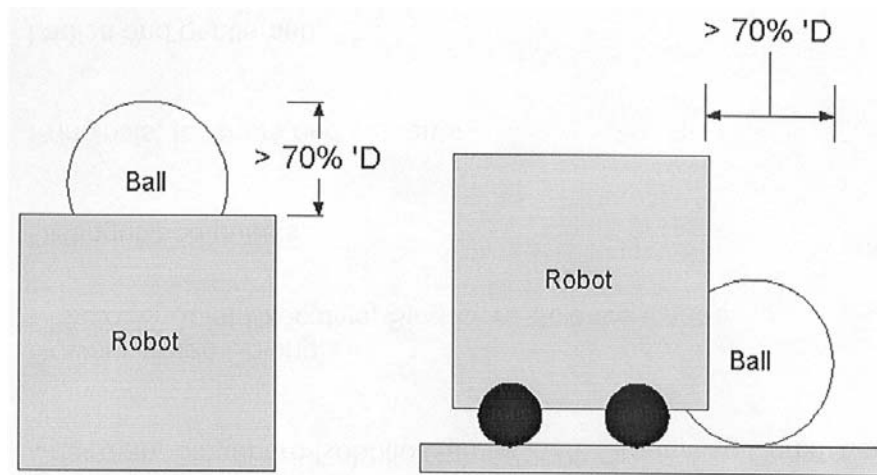

Figure 3: Catching/Holding of Ball
- 2.2.7 The robots are allowed to equip with arms, legs, etc., but they must comply with the size restrictions (section 2.2.1) even after the appendages fully expanded. None of the robots, except the single designated goalkeeper, shall be allowed to catch or hold the ball such that more than 30% of the ball is out of view either from the top or from the sides. (See Figure 3.)